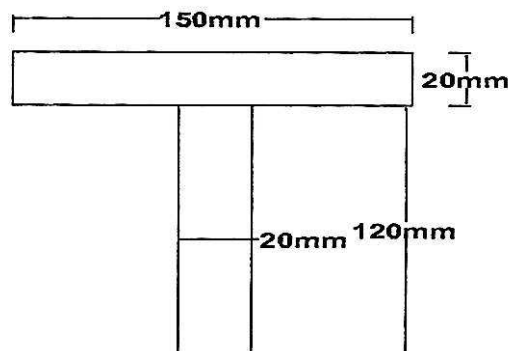

Fig. 9
7. (a) A T section 150 mm \times 120 mm \times 20 mm is used as a strut of 4 m long with hinged at its both ends. Calculate the crippling load, if Young's modulus for the material be 200 Gpa. (Refer Fig. 9) : [6]